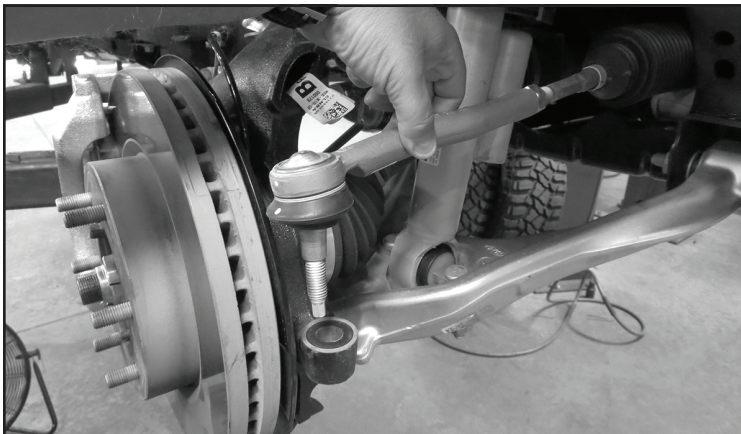

FIGURE 2 - STEP 3
3. Loosen the tie rod nut and carefully strike the knuckle with a hammer until it comes loose. Save hardware. **SEE FIGURE 2**